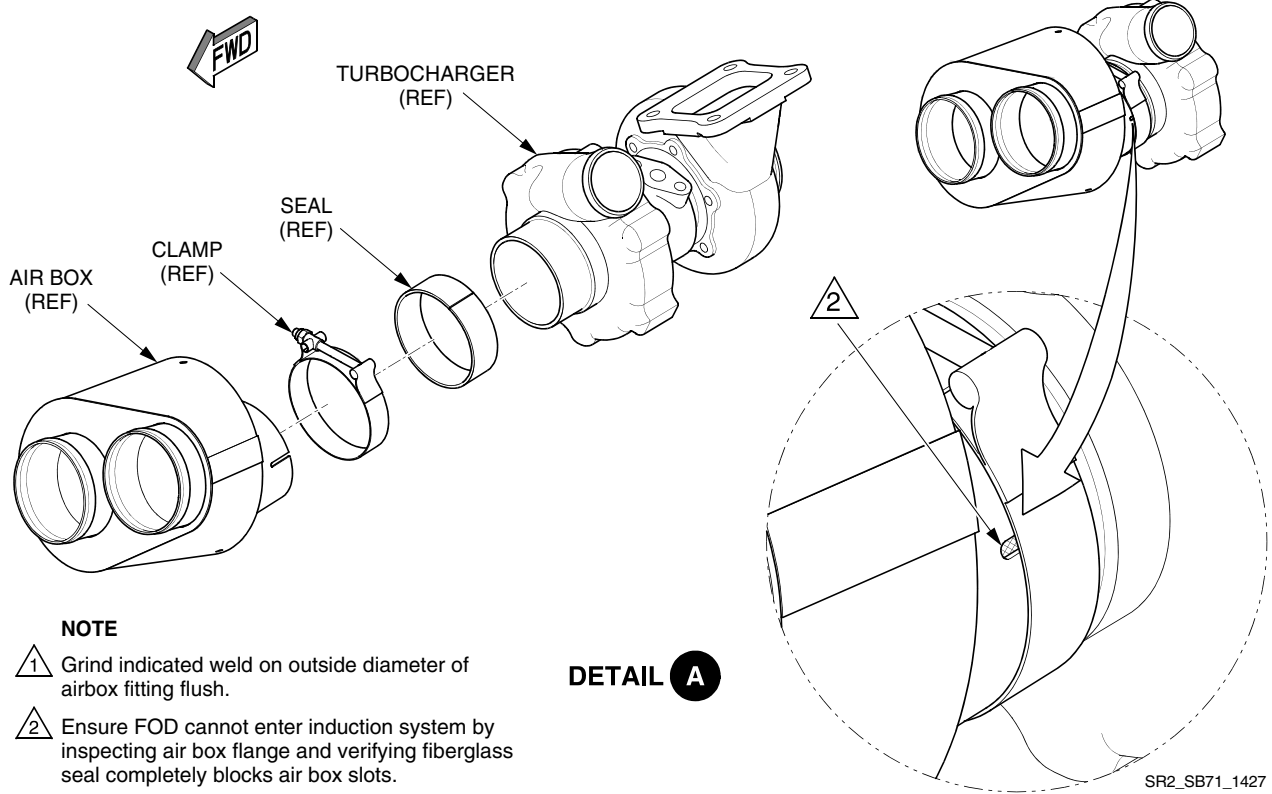

Figure 1
- G. Using Grinding Wheel, grind weld on outside diameter of airbox fitting flush to surrounding surface. (See Figure 1)
- U. Ensure FOD cannot enter induction system by inspecting air box flange and verifying fiberglass seal completely blocks air box slots. (See Figure 1)